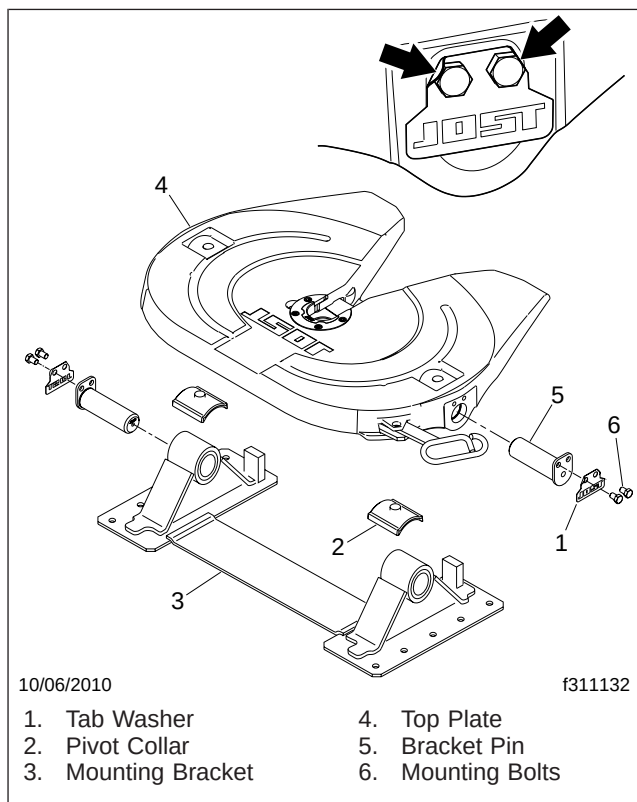

Fig. 1, Top Plate Removal and Installation
3. On each side of the top plate, bend back the locking tabs on the tab washer, then remove the mounting bolts and the tab washer. See **Fig. 1**.
5. Bend the upper corners of the tab washers up against a flat side of the mounting bolts. See **Fig. 1**.